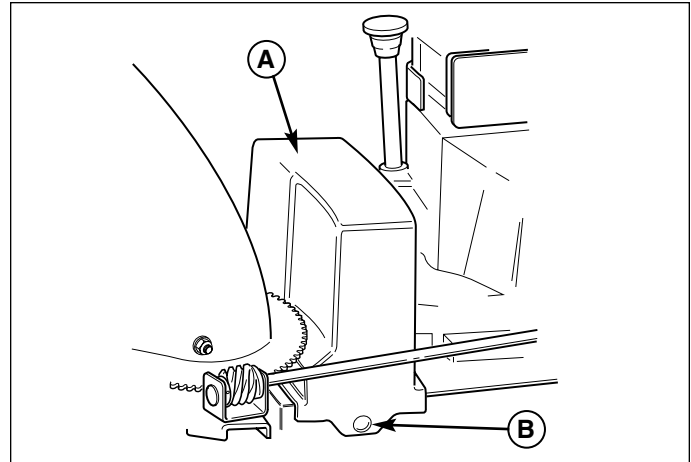

Figure 25. Belt Cover
1. Turn off the engine, remove the spark plug wire, and wait for all moving parts to stop. Rotate the spout full right. Loosen the two screws (B, Figure 25) securing the belt cover.